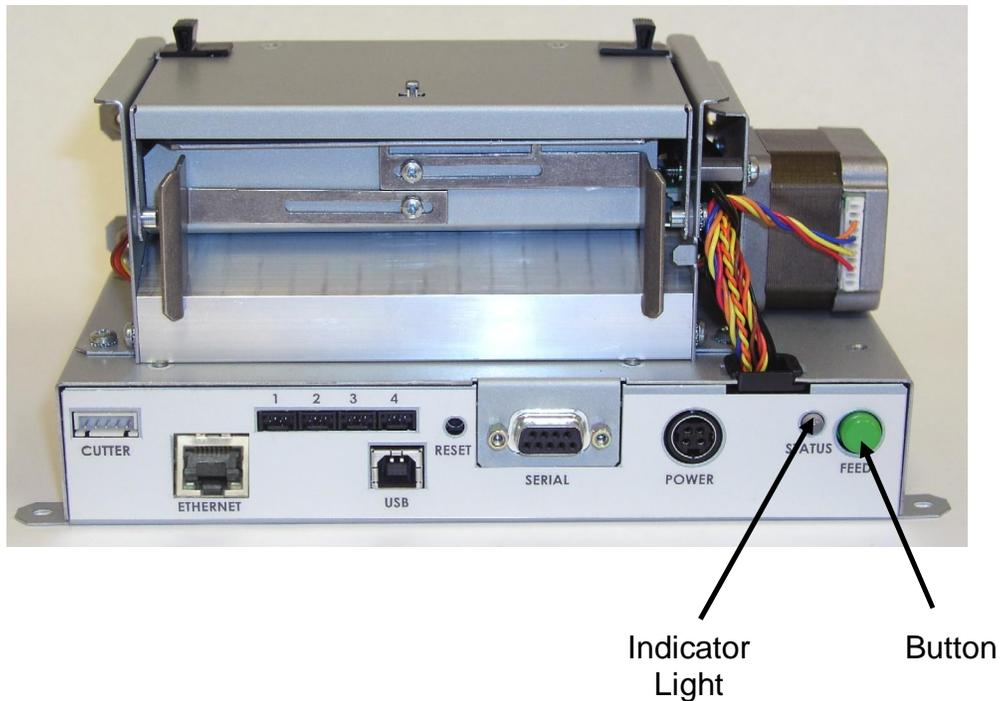

Figure 7 Button and Indicator Light (426M)
1. Release (Figure 7) and lift the Print Head mechanism to the open position.